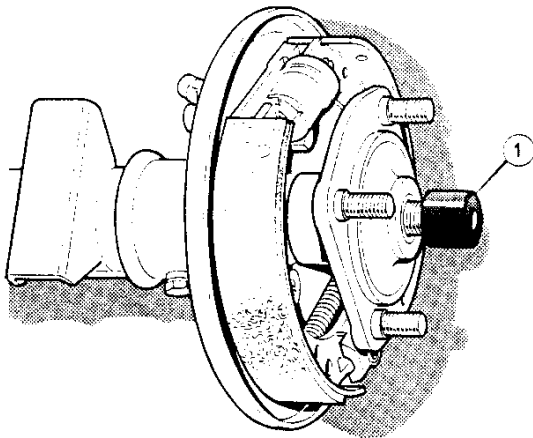

Figure 3 Hub puller sleeve (axle removed)
5. Fit the hub puller sleeve (**Figure 3**) on to the end of the half shaft to prevent damage to the thread. If the sleeve is not available replace the 5/8" UNF nut so that the threaded section of the nut is flush with the end of the half shaft thread.